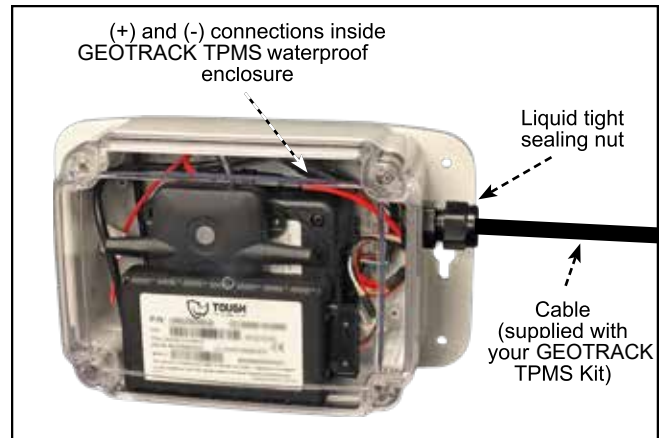

Figure 5: Connections inside GEOTRACK TPMS unit
2. Routing through the liquid tight connector, make connections on the (+) and (-) wires inside the GEOTRACK TPMS sending unit to the supplied wire harness. Tighten the liquid tight sealing nut to secure cable. See Figure 5.